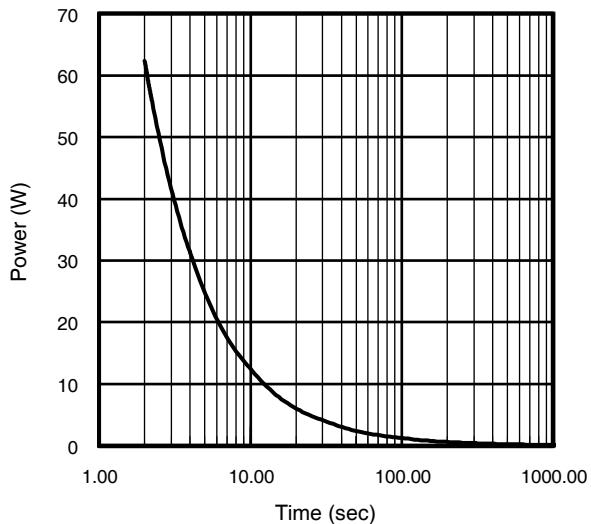

Fig 15. Typical Power Vs. Time
Notes on Repetitive Avalanche Curves , Figures 15, 16: (For further info, see AN-1005 at www.irf.com)
7. ΔT = Allowable rise in junction temperature, not to exceed T_{jmax} (assumed as 25°C in Figure 15, 16).